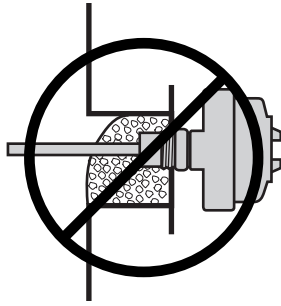

Figure 2
- Avoid mounting the sensor in a recess where buildup could dampen the vibration. See Figure 2.